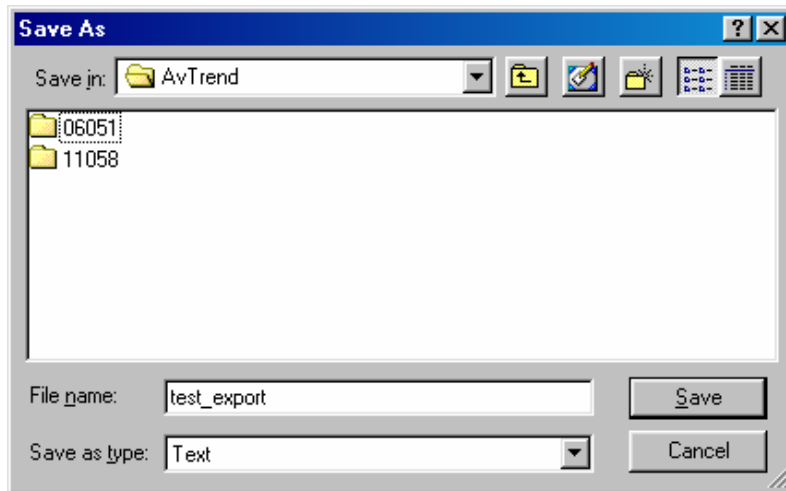

Figure 37: Dialog box generated when you export a sensor as text.
3. Select Export, then select Text. AvTrend displays the Save As dialog box and indicates it will save the new data file as a text file (see Figure 37 above).
3. Select Export, then select Text. AvTrend displays the Save As dialog box and indicates it will save the selected item as a text file (see Figure 37 above).